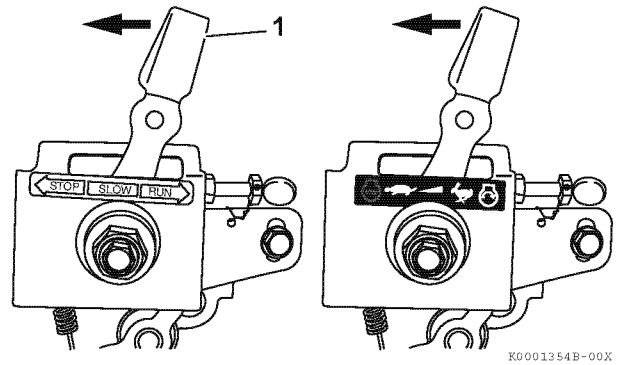

Figure 15
1. If your engine speed control is similar to **Figure 15** slide the engine speed control lever (1, **Figure 15**) in the direction shown to adjust the engine speed.